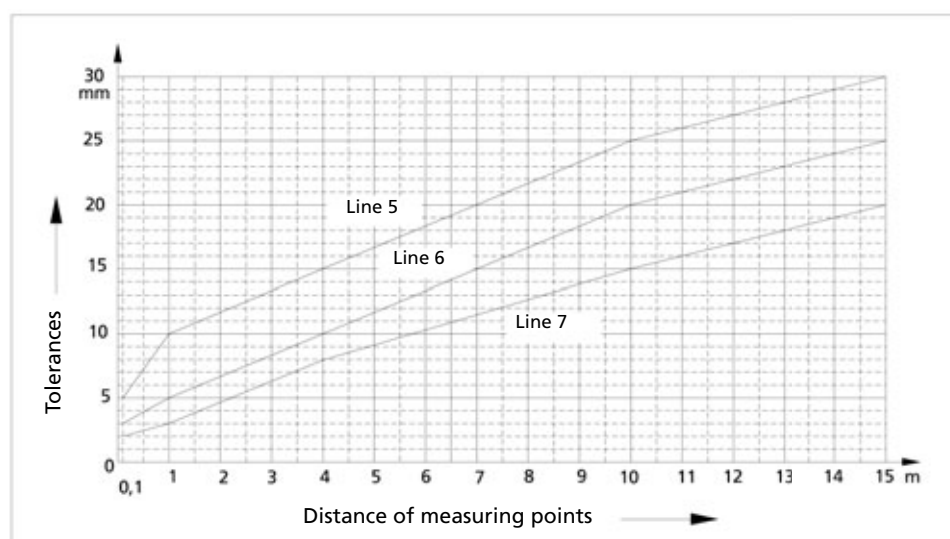

Fig. 10.2
* Interim values can be found in fig. 10.2. Round up found values to full mm.